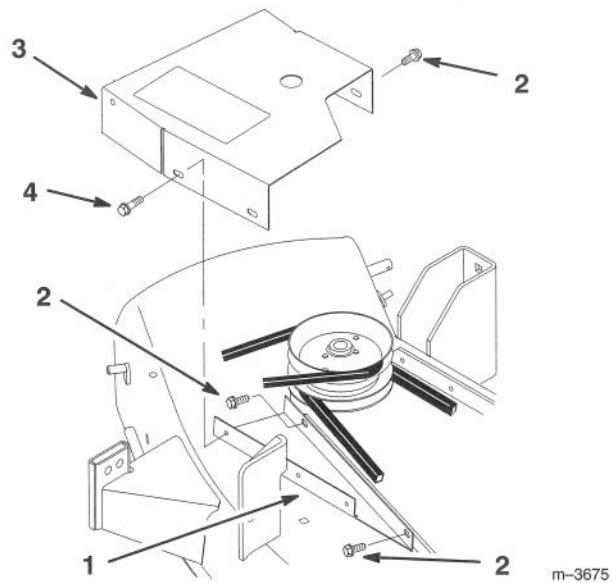

Figure 17
1. Attach the belt cover bracket to the mower deck with (2) 1/4 x 3/8" (10 mm) screws (Fig. 17).
2. Attach the front of the mower belt cover loosely to the belt cover bracket with (2) 1/4 x 1/2" (13 mm) screws. Attach the back of the mower belt cover loosely to the mower deck with a 1/4 x 3/8" (10 mm) screw (Fig. 17).